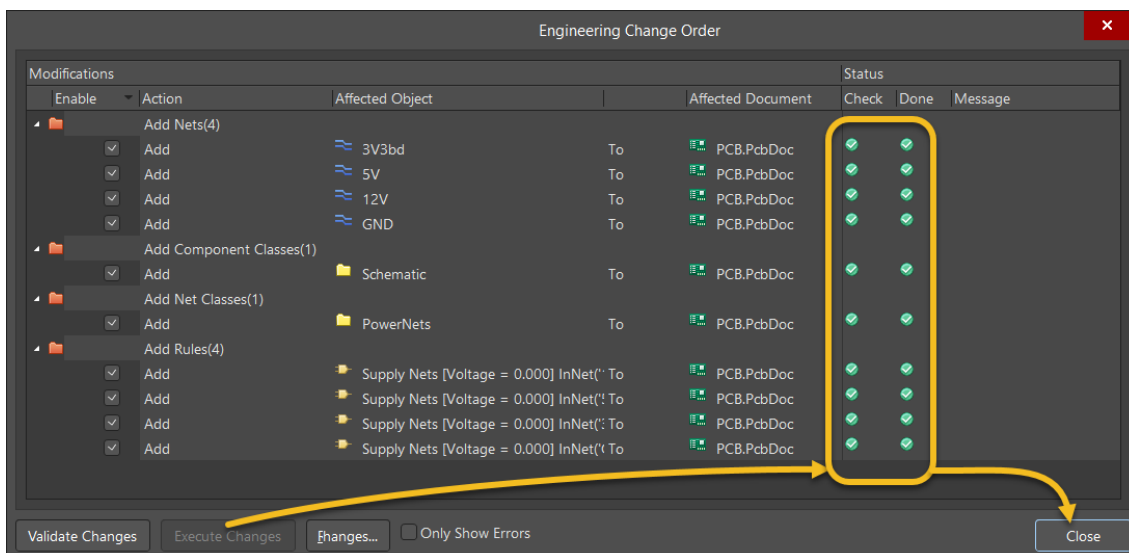

Figure 7. ECO
d) When the update is finished, close the **ECO** dialog with **Close**, Figure 7.